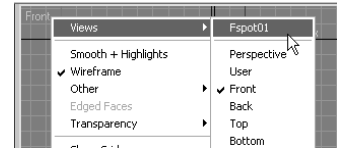

Figure 3.41
- Right-click a viewport name in the upper-left corner of the viewport, and select Views → Fspot01, as shown in Figure 3.41. This will change the viewport to the light's view. You will now be able to access the Camera Viewport navigation tools shown in the following table.